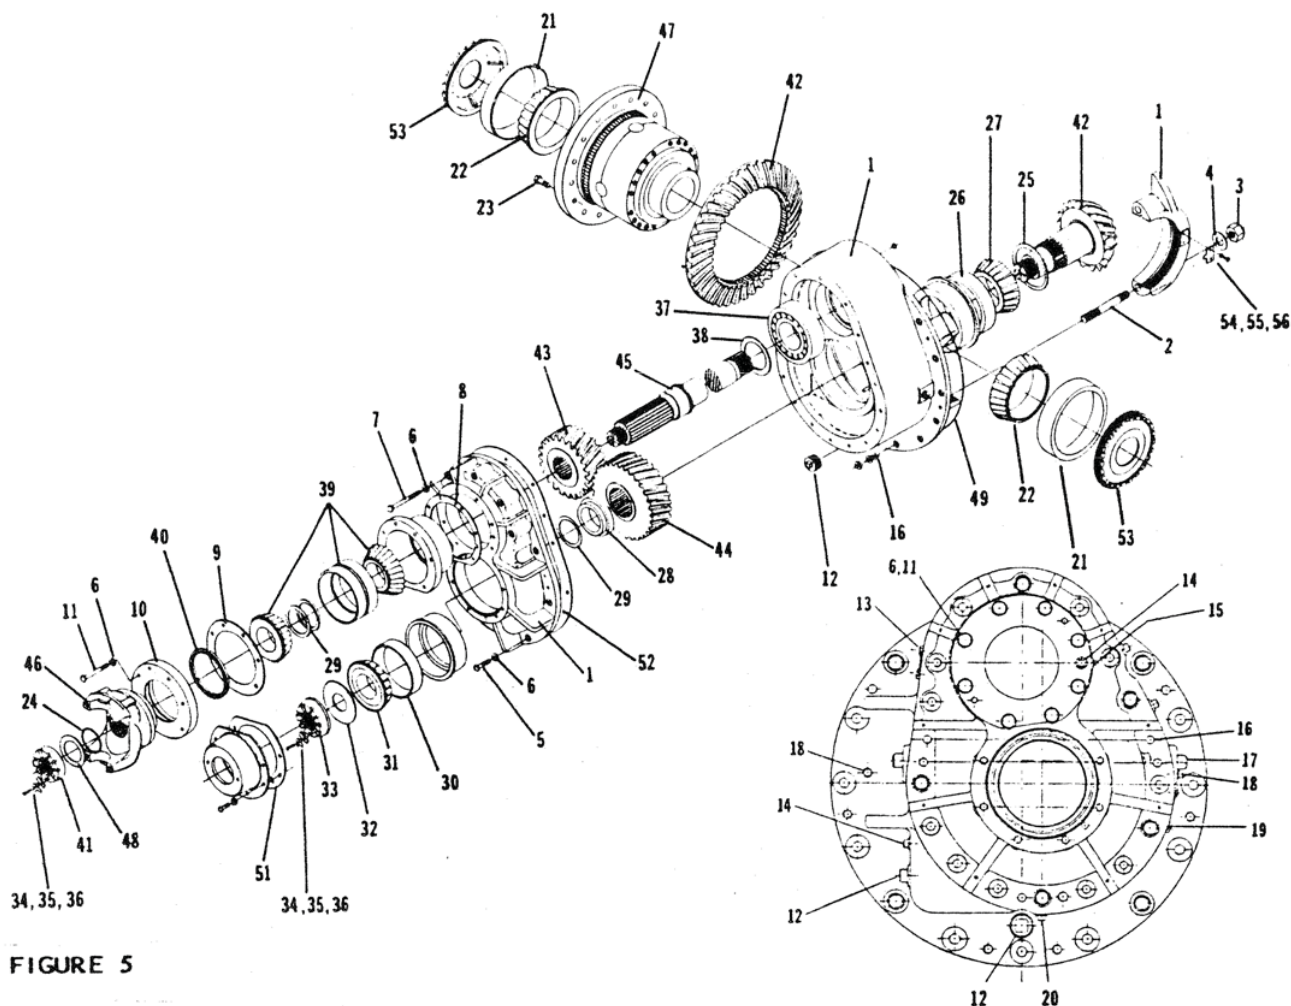

FIGURE 5
Standard Assembly Procedure – Figure 5.
D. Pre-Assembly (Figure 5) Input Shaft (Item 45).